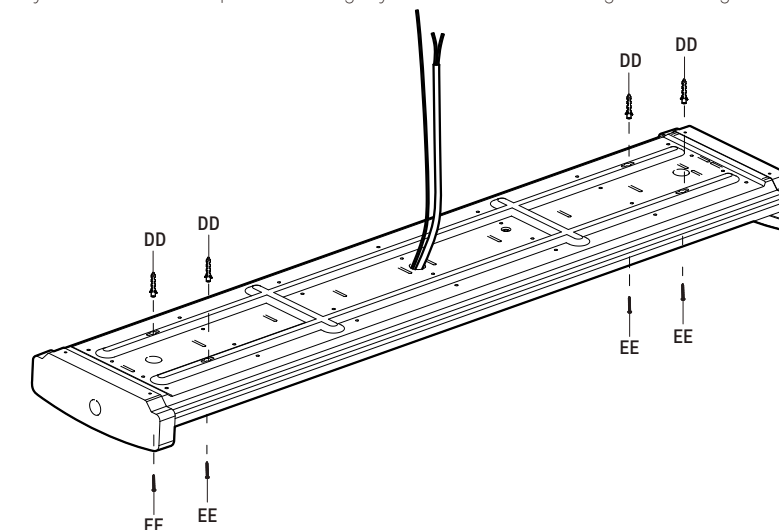

Figure 4
Mark 4 hole locations by holding fixture to wall or ceiling. For installation into drywall, drill a 1/4 in. pilot hole into the marked screw locations. Insert wall anchors (DD). Once the wall anchors have been inserted into pre-drilled holes, replace fixture over hole locations and slightly tighten screws (EE) into wall anchors. For installation into wood use the included screws. Slide the lamp base (A) over until the narrow legs of the keyhole slots are under the heads of the screws (EE). Finish tightening the screws (EE) until they are firmly seated and the lamp base (A) is tightly secured to the mounting surface. (Figure 4)